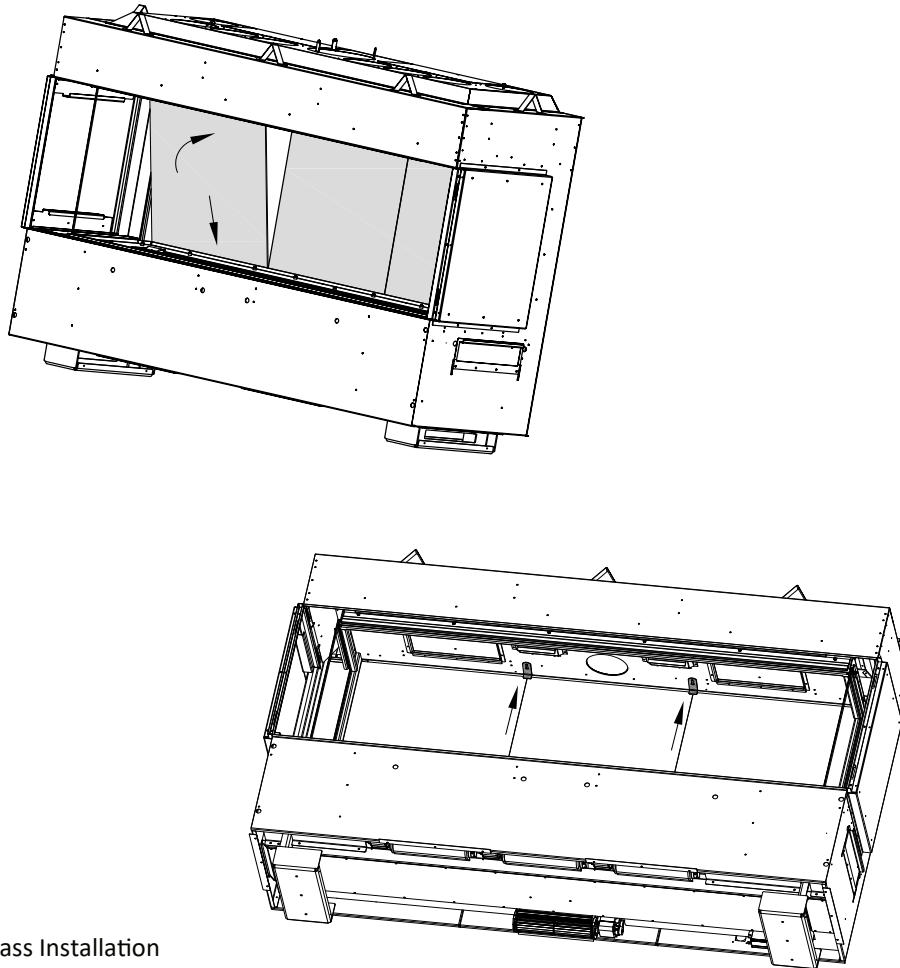

Figure 7.12 - Black Glass Installation
2. Install the (3) rear interior firebox black glass panels. These three panels are the same size and interchangeable. Secure with (2) rear firebox panel clips and (2) sheet metal screws as shown. See Figure 7.12.